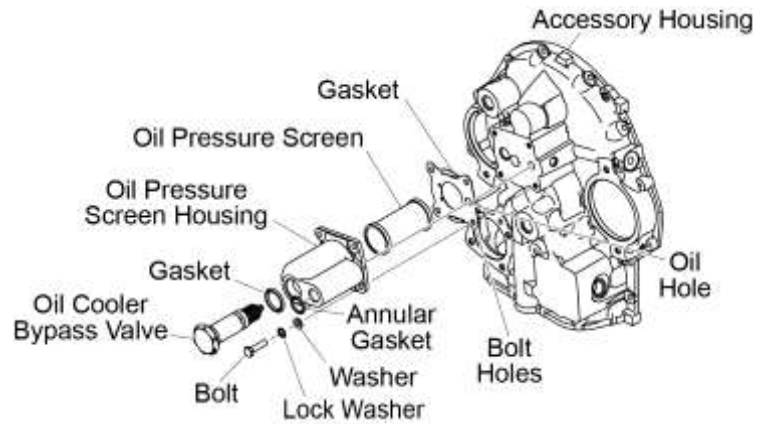

Figure 3
- B. Remove the four bolts, lock washers, and washers from the oil pressure screen housing (Figure 3). Discard the lock washers.
- I. Install the oil pressure screen (Figure 3) with a new gasket in the oil pressure screen housing flush with the base of the oil pressure screen housing.
- J. Install the oil pressure screen housing assembly with the new gasket on the pad of the accessory housing aligned with the bolt holes and oil hole on the pad of the accessory housing using the four bolts, each with a washer and a new lock washer as shown in Figure 3.